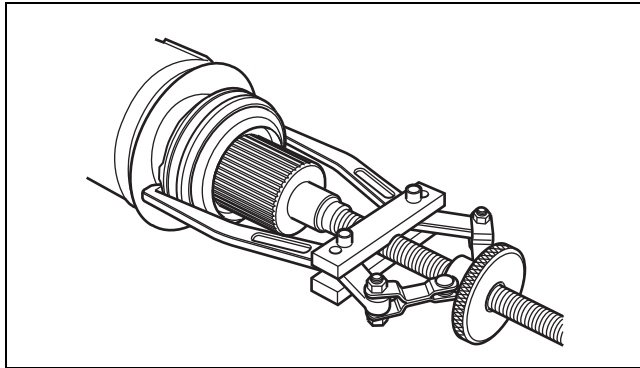

Figure 9.14
- Use a puller to remove the bearing assembly from the coupling shaft. Follow the puller tool manufacturer's instructions. Discard the center bearing. Figure 9.14.